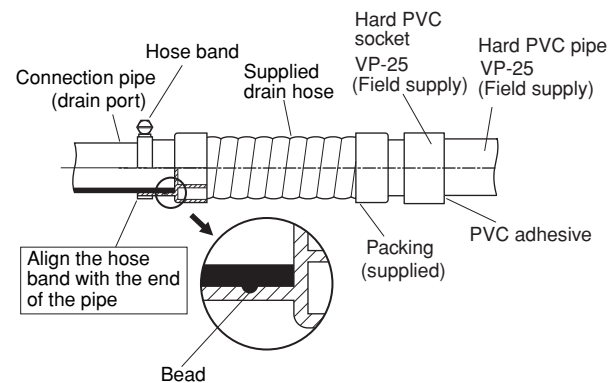

Fig. 3-6
- (1) Prepare a standard hard PVC pipe (O.D. 1-1/4 in.) for the drain and use the supplied drain hose and hose band to prevent water leaks. The PVC pipe must be purchased separately. The unit's transparent drain port allows you to check drainage. (Fig. 3-6)
- Insert the drain pipe until it contacts the socket, as shown in Fig. 3-6, then secure it tightly with the hose band.
- Align the hose bands with the end of the hose. Tighten the hose band firmly. Please make sure that the bead is not covered by the hose band. (Fig. 3-6)
Tighten the hose clamps so their locking nuts face upward. (Fig. 3-6)